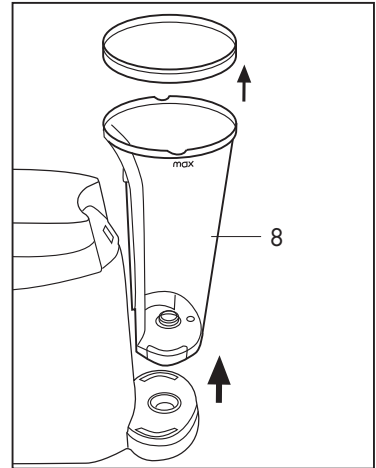

Fig. 1
- Take the tank (8) out of the machine by pulling it upwards, then remove the cover **(Fig.1)**